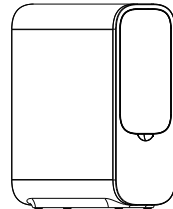

Figure 3
Step 2: finally cover the cover plate (as shown in figure 3).